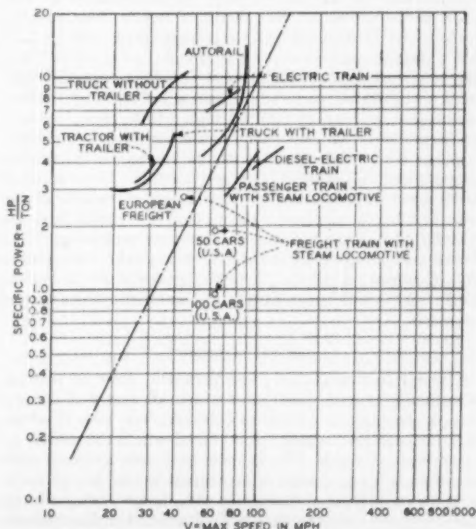

FIG. 4 SPECIFIC POWER OF CONVOYS
Fig. 4 represents the curves for power per ton at maximum speed for tractors and trucks with trailers and various types of trains. The reduction of power required per unit weight is due to several reasons: (1) Especially in the case of fast trains, the air resistance of the complete train is considerably less than the sum of the air resistances of the single cars used separately. (2) The concentration of the propulsive power in the locomotive allows the employment of large power-plant units, with better efficiency and lower specific weight. It is seen, however, that the trains driven by electromotors fed from power lines have higher power per weight ratio than, for example, the Diesel-electric and steam-driven passenger trains.